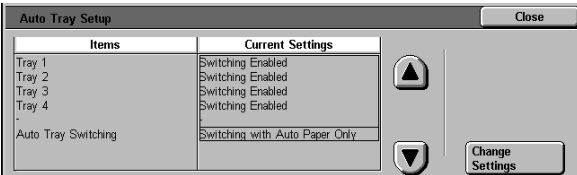

Figure 10: Auto Tray Setup screen
- 2 Touch the **Auto Tray Setup** button to display the Auto Tray Setup screen, as illustrated in Figure 10.